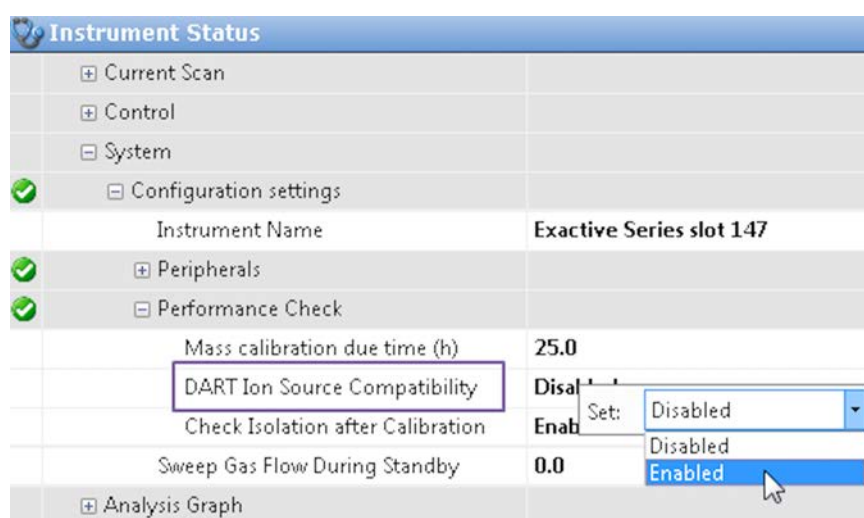

Figure 5-13. Instrument status window—DART Ion Source Compatibility
4. In the Set text field, select **Enabled**. See Figure 5-13. The shortcut menu disappears and the new value is displayed in the instrument status window.